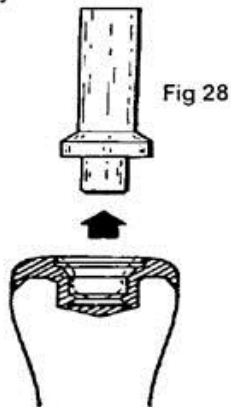

Fig 28
6. Remove the plastic Paralleling Post: leaving the stainless steel attachment cavity open for investment material to flow into (Fig 28).